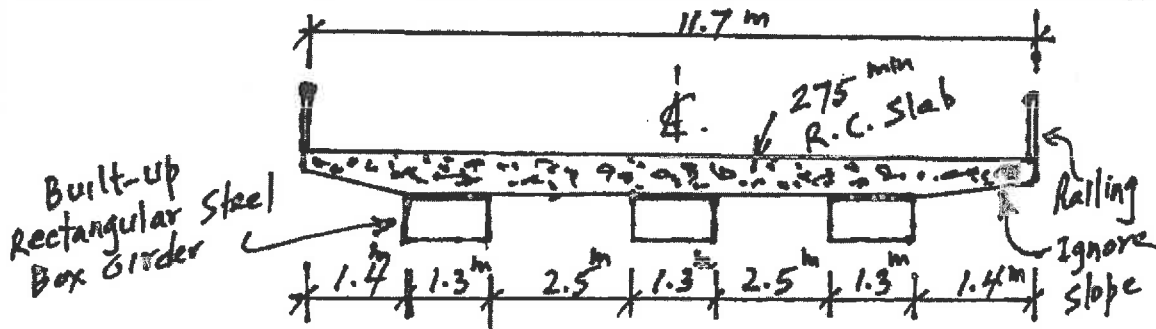

FIGURE 3
3. The cross-section of a simply supported composite bridge is shown in Figure 3, designed spanning one-way. The span and design live load are shown. Using unshored composite construction, and assuming 100% interaction between the steel box girders and the reinforced concrete deck: